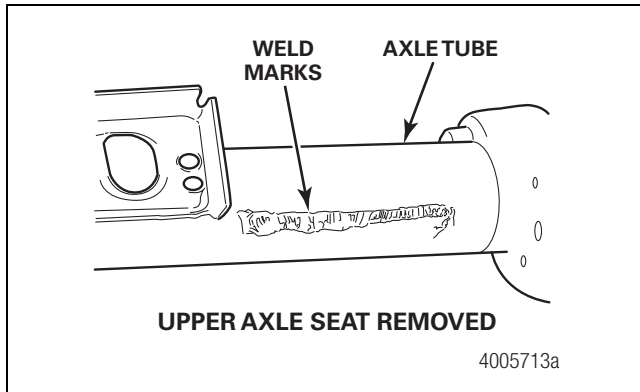

Figure 10
4. Remove only the welds. Do not gouge the axle tube. Figure 10.